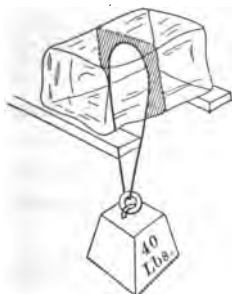

FIG. 169. — Wire cutting through a block of ice.
**194. Effect of pressure on melting ice.** If we suspend a weight of 40 or 50 pounds by a wire loop over a block of ice (Fig. 169), the wire will cut slowly through the ice. The pressure causes the ice to melt under the wire; but the water flowing around the wire freezes again above it, and leaves the block as solid as before.